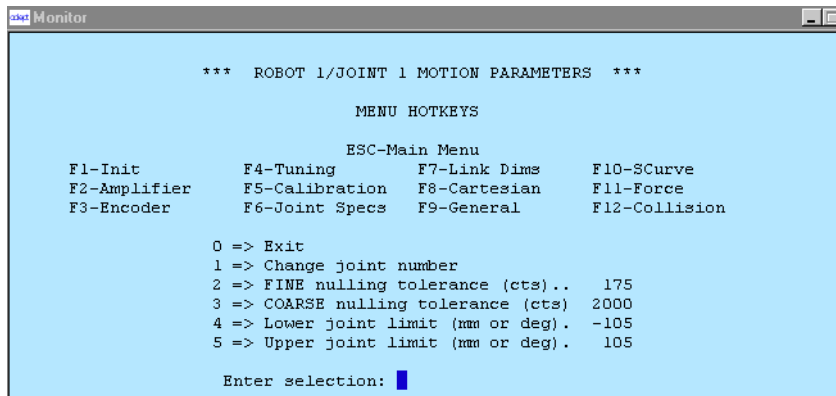

Figure 6-17. Joint 1 Motion Parameters Menu
4. The system should go to the menu for Joint 1 - verify this at the top of the screen as shown in Figure 6-17. If it is not displaying Joint 1, select option 1 => Change joint number, and enter 1.
- After confirming you are in the Joint 1 menu, select option 4 => lower joint limit. See Figure 6-17.